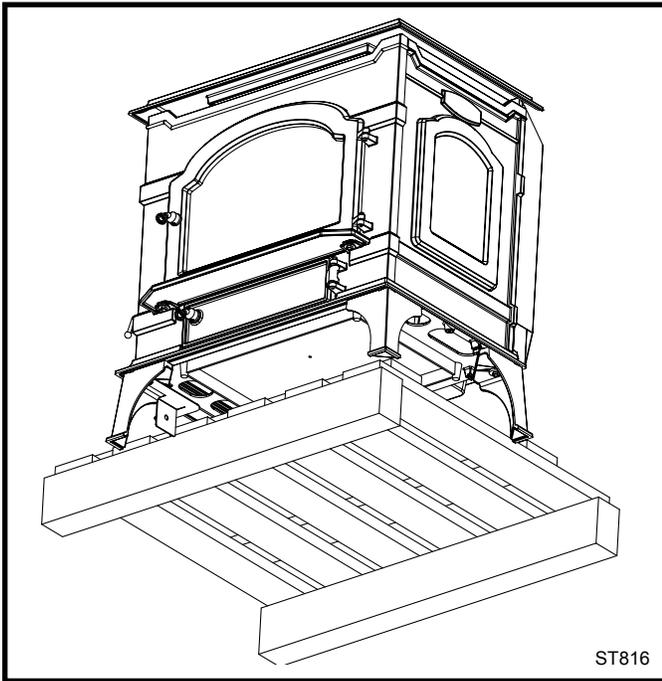

Fig. 21 Reposition stove so one rear leg can be attached.
7. Reposition the stove so the first rear leg can be attached. Attach the leg using the procedure described in Step 6. (Fig. 21)
9. Remove the (4) 1/4-20 x 3/8" hex head bolts from the mounting bosses and attach the bottom heat shield using the same bolts.